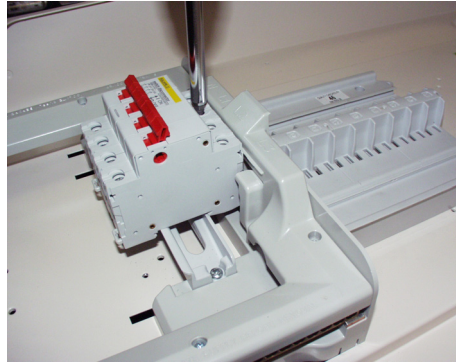

Fig 2
- Tighten the top load side (busbar) terminals (Fig 2) according to recommended tightening torque's below: